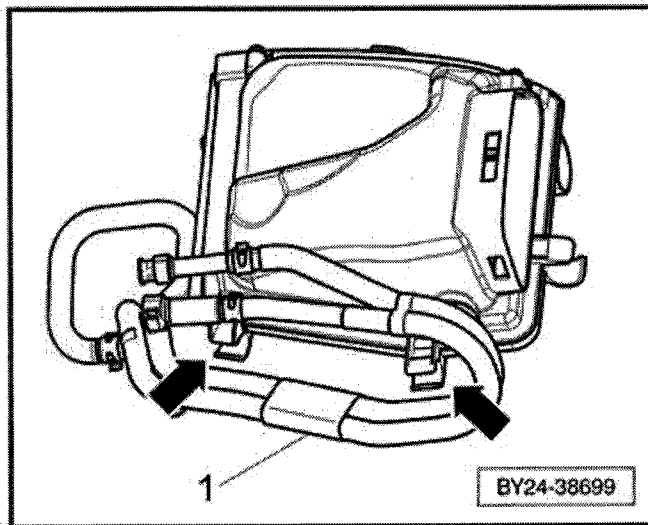

Figure 2
4. Ensure that the flexible fuel hoses -1- are FULLY clipped into the underside of the air cleaner housing at the TWO points shown in Figure 2.